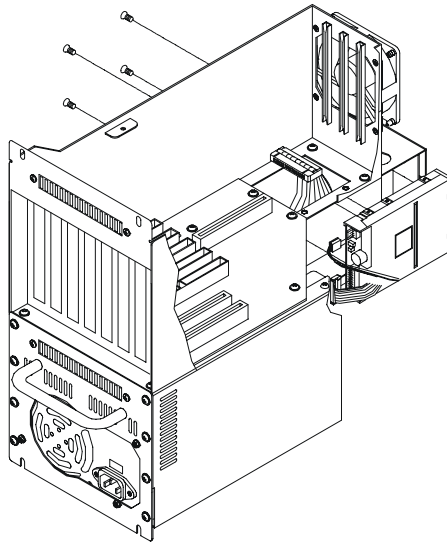

Figure 3.9: Removing the FDD
5. Unscrew the four screws on the outside of the side panel of the AWS-8248 unit, and remove the FDD. (See Fig. 3-9.)